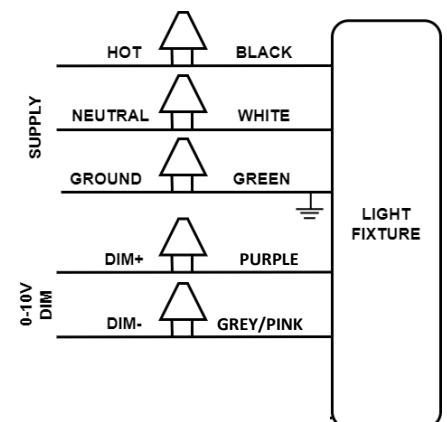

Figure 5.1
- Make appropriate wiring connections as per wiring diagram between the cable from fixture and supply through the pole. [Fig 5.1 & Fig 1.1]
- Complete wiring as per wiring diagram [Fig 5.1] and place the splice cover back and secure with the two screws.
- Inside the arm, make appropriate wiring connections as per wiring diagram [Fig 5.1].
- Make appropriate wiring connections as per wiring diagram. [Fig. 5.1]